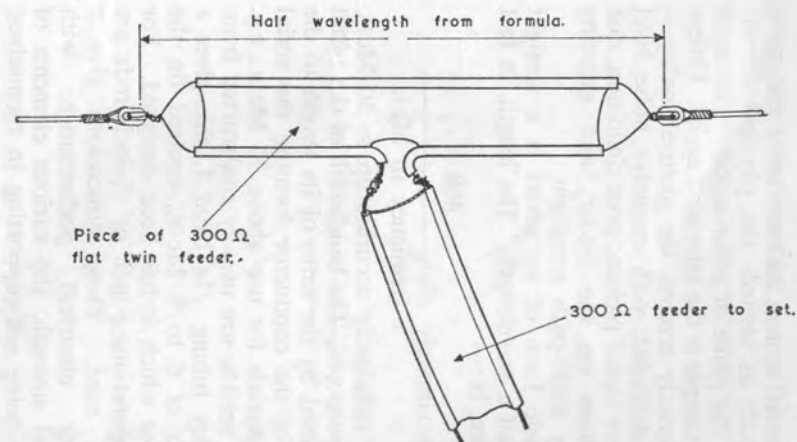

Fig. 18.2 Folded dipole.
(2) FOLDED DIPOLE (see Fig. 18-2)